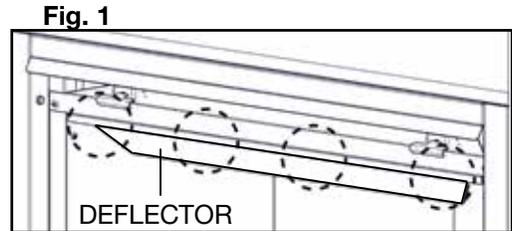

Fig. 2
- F. Secure the flue collar assembly, gasket and rear exit shield using the four hex head 3/8" thread cutting screws, refer to Figure 2.